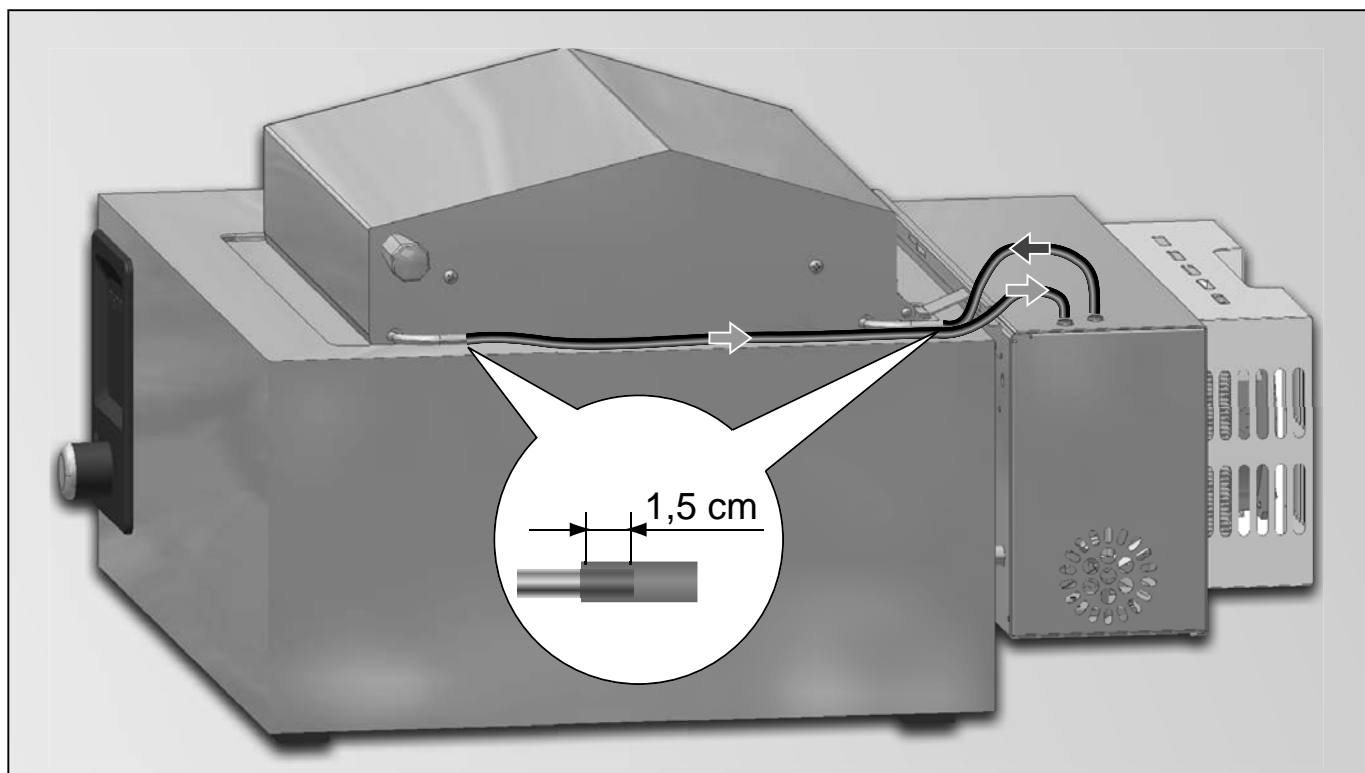

Fig. 18 Connecting tubes
1. Cut the tubes of the cooling unit to the lengths actually required for connection to the tube suspender. Do not confuse the supply and return tubes when doing this (markings on the tubes and Fig. 18): The rear tube of the cooling unit must be plugged onto the rear connection of the tube suspender. Keep the tubes as short as possible, but do not bend them. Store any excess tube material; it will still be required.
2. Plug tubes onto the connections of the tube suspender (sticks out 1.5 cm, Fig. 18).